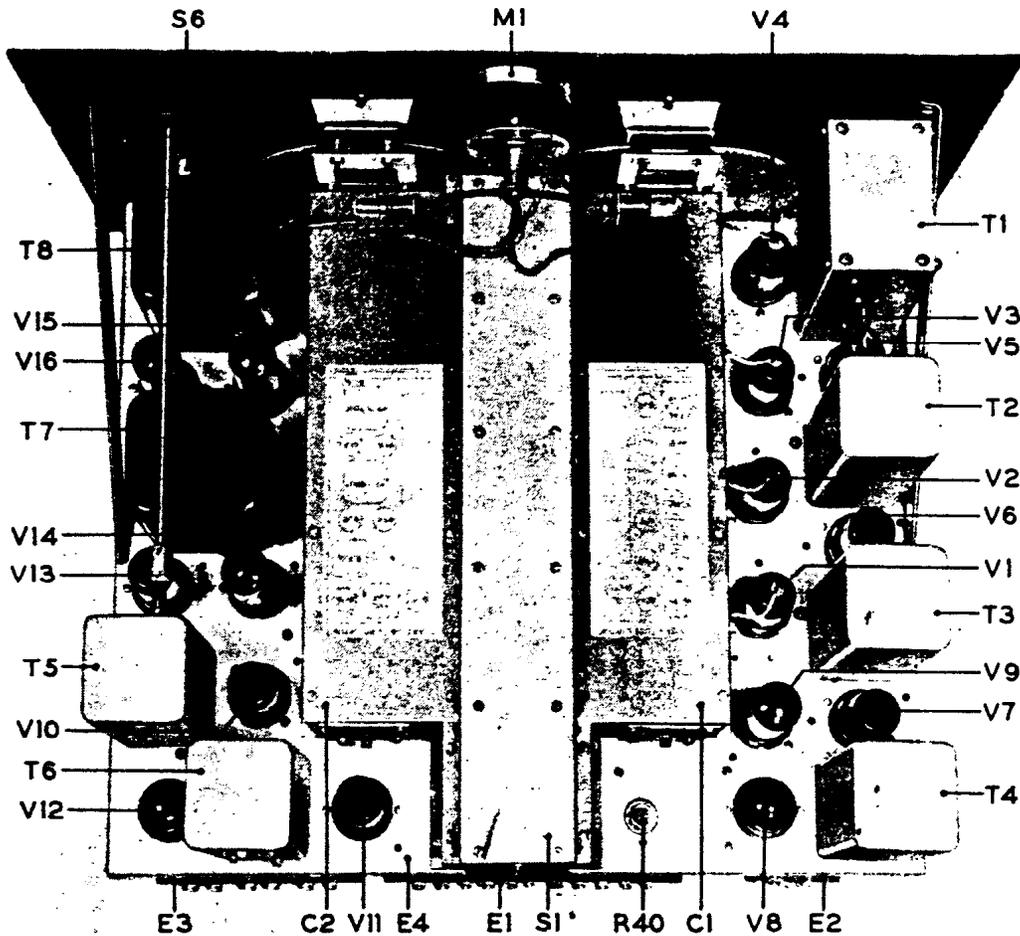

FIG. 7—Top chassis view showing arrangement of components.
The proper location of these tubes is shown in FIG. 7 and on the diagram attached to the top of the tuning unit. Make sure that tubes V1, V2, V3, V4 and V5 have leads connected to their grid caps.
h. S-Meter Tuning: The S-meter (M1, FIG. 2), a tuning guide, operates only when the Receiver is set for AVC. Its reading increases as the Receiver approaches resonance with the incoming signal. Exact resonance is shown by the greatest reading of the meter. BAND WIDTH control must be set at 3 for accurate tuning by means of the meter. A screwdriver adjustment (R40, FIG. 7) at the rear of the chassis varies the resistance in shunt with the meter. By means of this adjustment, an "S9" reading may be obtained on any input between approximately 10 and 10,000 microvolts. The normal factory adjustment is made on an input of 50 microvolts, and when so adjusted each "S" number represents a change in signal input of approximately 6 decibels, or a ratio of two-to-one.